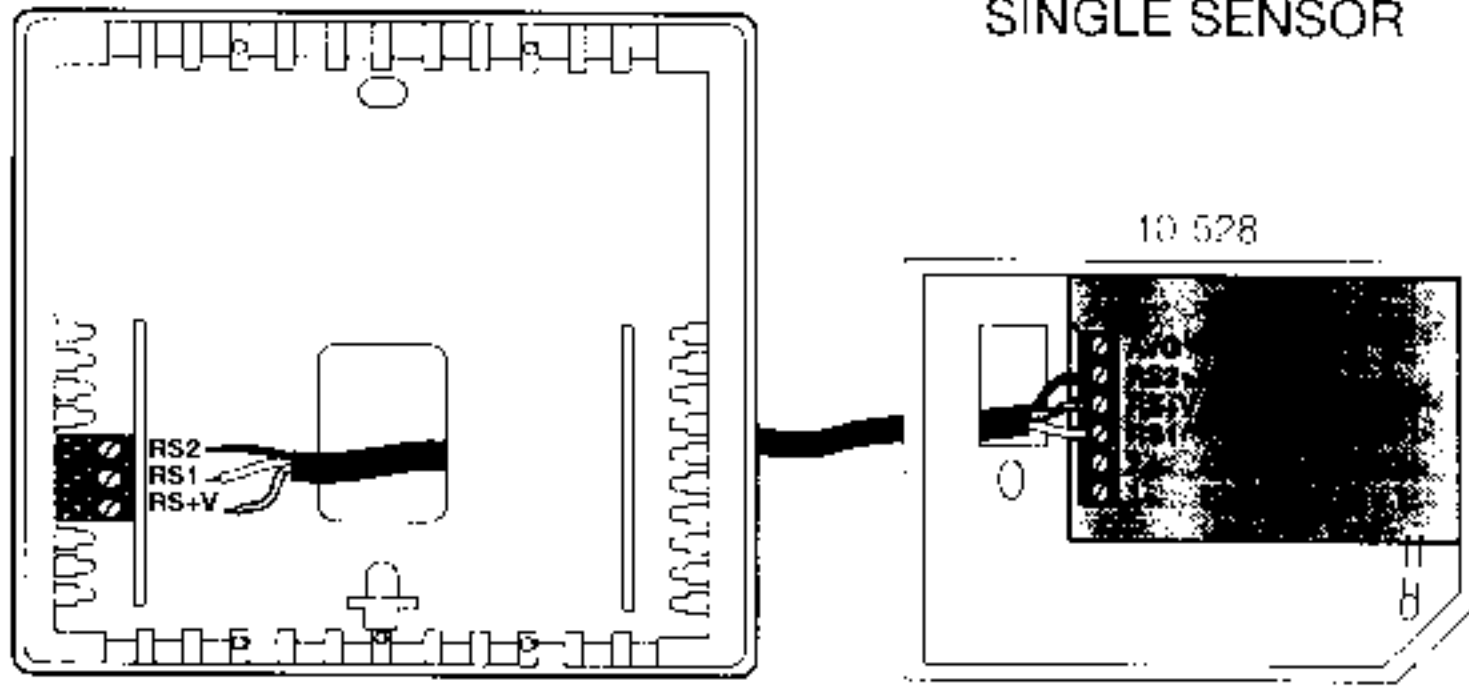

FIGURE 1
7. Strip 1/4 inch of insulation from the three wires at the Remote Sensor. Install the wires in the terminals labeled RS2, RS+V and RS1. Push any extra wire back into the wall cavity. Seal the hole in the wall around the cable to eliminate any draft that might affect the sensor. (Refer to Figure 1).